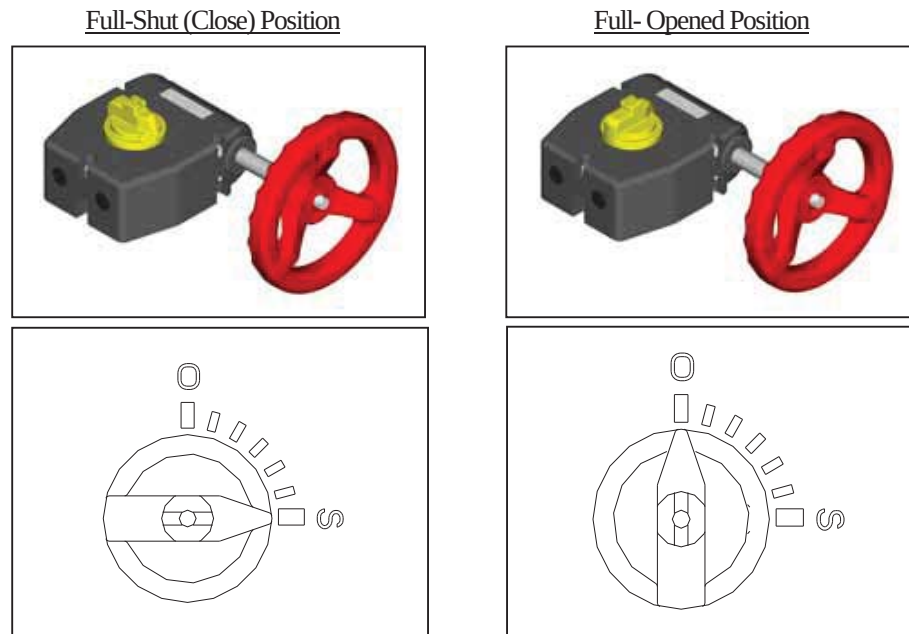

Fig. 6-2
- 3) In case of gear type (40-400 mm {1 1/2"-16"}), the indicator shows the position of the disc on the top of gear box. (Fig.6-2)